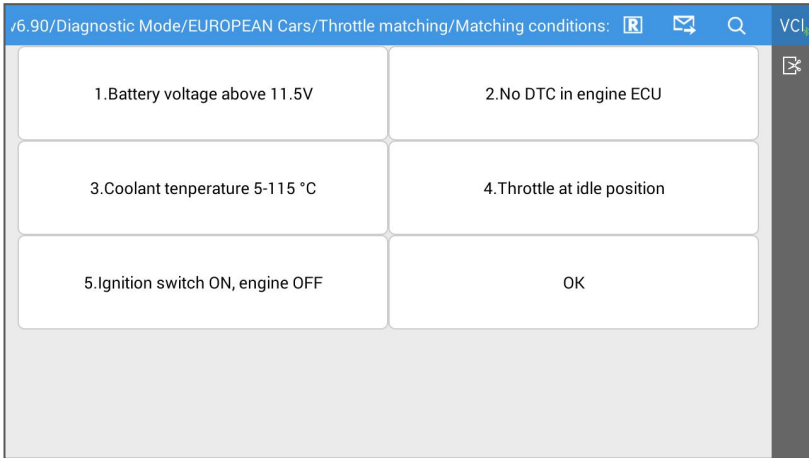

Figure 3.6-2 Specific conditions
- 2) After the program establishes the normal communication with the vehicle ECU and some functional operations meet certain conditions, select the functional operation that needs to be performed, shown as in Figure 3.6-2: